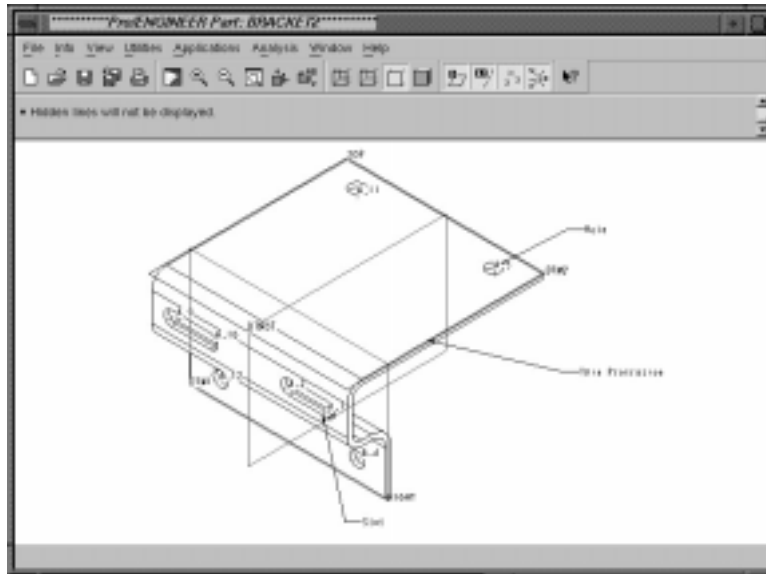

Figure 3 Main Window
- New** Creates a new model. A dialog box opens with the type of model (part is the default) and the name of the new model (Fig 3). Select the model type by clicking on the appropriate button, and enter the new name. Note that only the base name should be provided -- Pro/E will append the correct extension based on the type of file (For example, if the model is a part and *bracket* is entered, the actual file name is *bracket.prt.1*.) There is also a button called **copy from**. This loads an existing model into the new model (without affecting the old model.) It is very useful if the new part is similar to an existing part. The tutorials show how this feature is used to expedite model creation for all models.